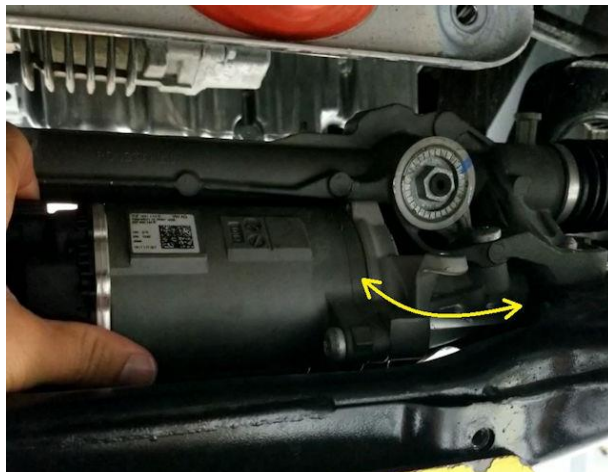

Figure 3
- Grasp the servo motor unit by hand (no tools) and rotate it a few times back and forth slightly in the steering gear housing without exerting force on the flange (Figure 3).